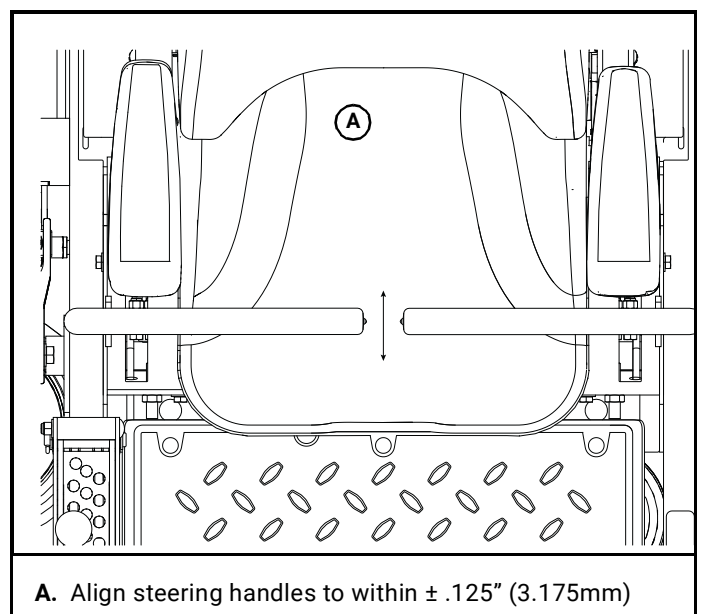

Figure 4-10
- Adjust the steering control levers so that they align with each other when in the neutral position. Figure 4-10